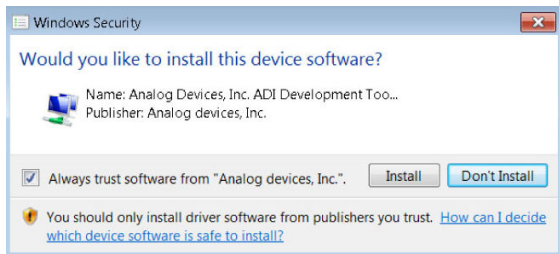
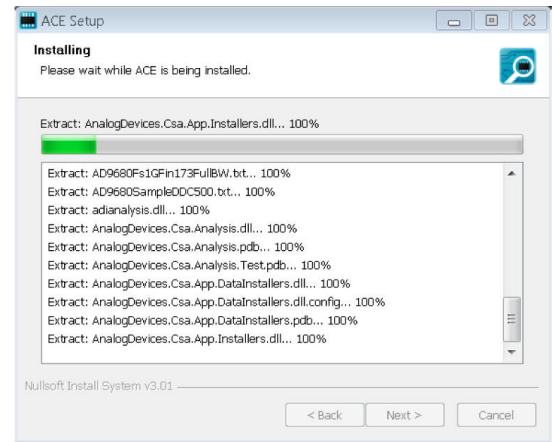

Figure 14. Windows Security Window
Figure 15. Installation in Progress
8. The **Windows Security** window appears (see Figure 14). Click **Install**. Figure 15 shows the installation in progress. No action is required.